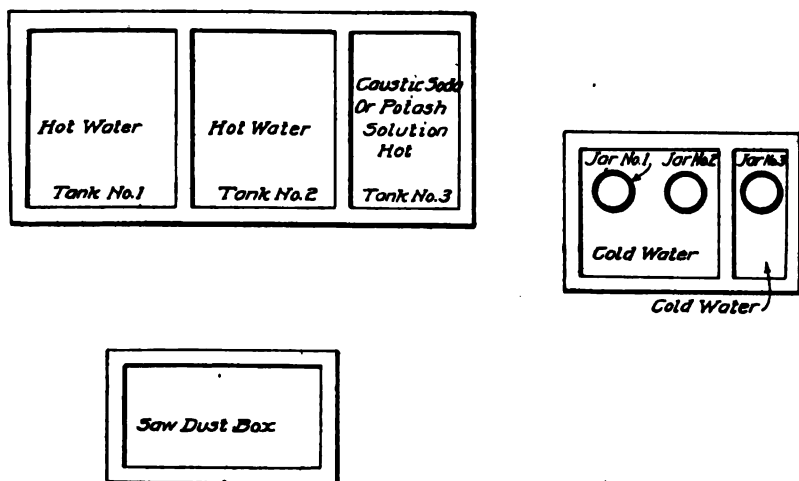

Fig. 479. Layout for Battery Cleaning Outfit
*Cleaning Outfit.* The cleaning outfit should consist of three sheet-steel tanks, Fig. 479, of suitable size (35 gallons for a large shop) mounted so that their contents may be kept heated to the desired temperature, three stone jars of approximately 15 gallons capacity, and a sawdust box. Two of the steel tanks should be equipped with overflow pipes so that they can be kept about two-thirds full at all times. These are tanks No. 1 and No. 2. They are used for clear hot water for rinsing parts after they have been cleaned. The third tank does not require a drain nor an overflow pipe and is used for the potash or caustic soda solution. This can be used for a long time without changing by simply adding a small amount of soda as the solution weakens. All three tanks are maintained at a temperature of 180° to 212° F., or approximately the boiling point.
The three jars mentioned are used for the acid solutions and are referred to as jars No. 1, No. 2, and No. 3. A wood tank large enough to hold the three jars and divided into two compartments, as shown in Fig. 479, should be provided. This is important, as the parts cannot be rinsed in the same cold water after being immersed in the different acid solutions. The solutions recommended are in tanks 1 and 2, clear hot water; tank 3, a solution consisting of one pound of caustic soda per gallon of water. Jar No. 1 is filled with a solution consisting of four gallons of nitric acid, one gallon of water, and six gallons of sulphuric acid. The water is placed in the jar first, the nitric acid is added slowly, and the sulphuric acid is poured in last. This order must be strictly followed, as it is dangerous to mix a solution of these acids in any other manner. In jar No. 2, the solution is one gallon of hydrochloric acid to three gallons of water, while jar No. 3 contains a solution of one-half pound of cyanide to a gallon of water. Tank No. 2 should be used only for parts which have been in the potash solution and for no other purpose. Tank No. 1 is for general rinsing purposes.